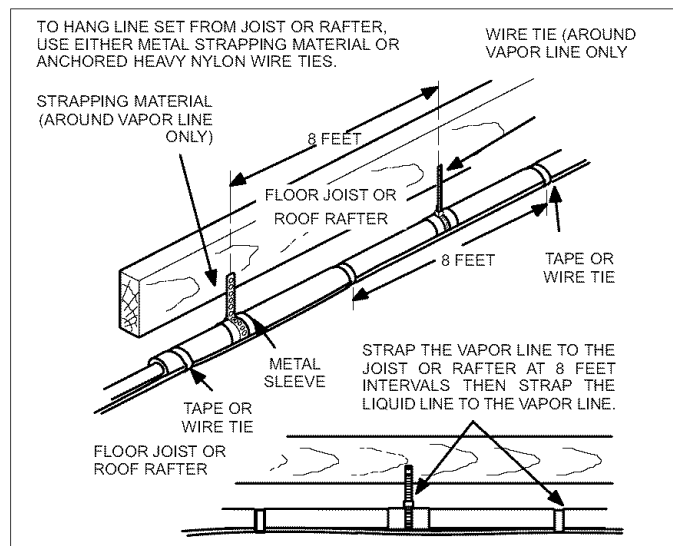

Figure 16. Refrigerant Line Sets: Installing Horizontal Runs
- Installation of line sets on horizontal runs is illustrated in figure 16.